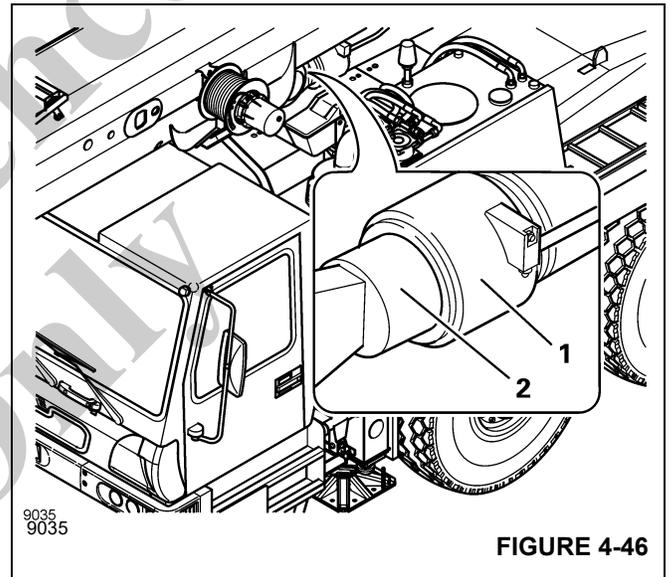

FIGURE 4-46
- Clean the open end (2), (Figure 4-46) of the piston rod of old grease, dirt particles and rust.
- Lubricate the open end (2), (Figure 4-46) of the piston rod on the lifting cylinder head (1), (Figure 4-46) so that it is evenly covered with grease.